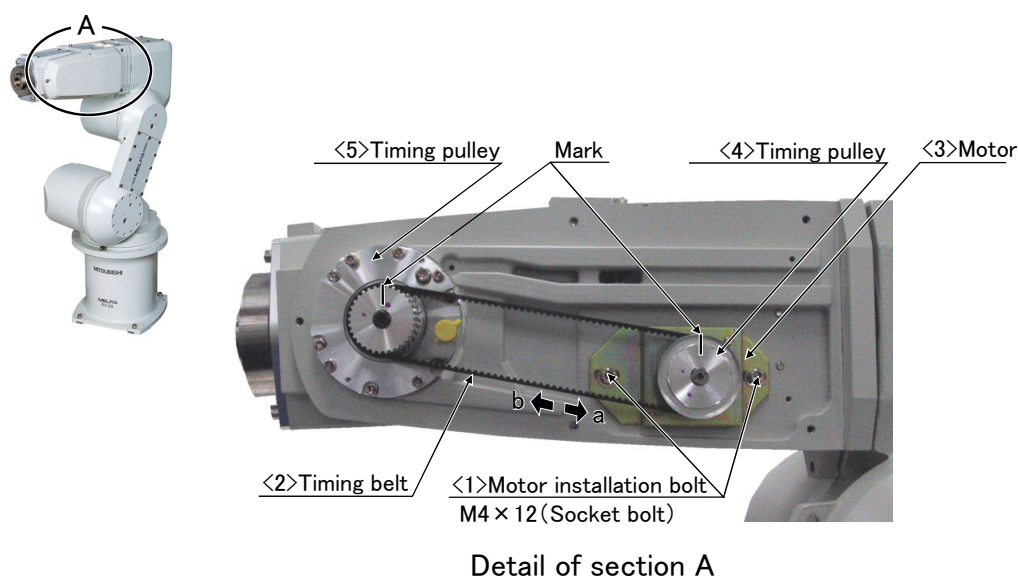

Fig.5-7 : Inspection, maintenance and replacement of J5-axis timing belt
- 3) Move the motor <3> in the directions of the arrows shown in Fig. 5-7, using the tension adjustment screw while checking the tension of the timing belt <2>. Lightly pushing the center of the belt with your finger (approximately 1.3 N), move the motor to the position where the belt flexes about 0.9 mm.
- 1) Fig. 5-7 shows the methods for inspecting, adjusting and replacing the timing belt.
- 4) Make marks on the timing belt <2> and timing pulleys <4> and <5> with a felt-tip pen as shown in Fig. 5-7 so that the engagement of the timing belt <2> and timing pulleys <4> and <5> does not deviate.
- 3) Move the motor <3> in the directions of the arrows shown in Fig. 5-7, using the tension adjustment screw while checking the tension of the timing belt <2>. Lightly pushing the center of the belt with your finger (approximately 1.3 N), move the motor to the position where the belt flexes about 2.3 mm.
- 5) Make marks on the timing belt <2> and timing pulleys <4> and <5> with a felt-tip pen as shown in Fig. 5-7 so that the engagement of the timing belt <2> and timing pulleys <4> and <5> does not deviate.